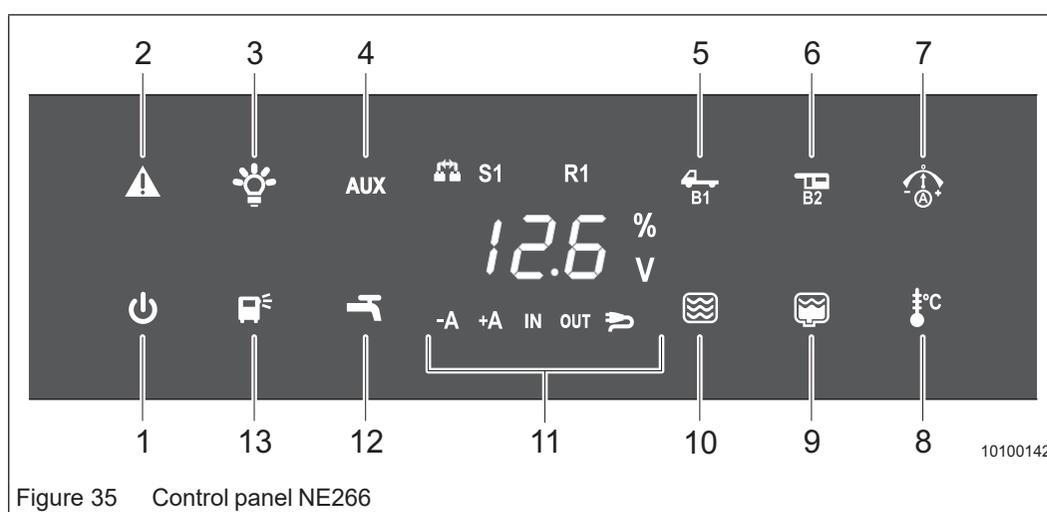

Figure 35 Control panel NE266
- ➔ Touch the “On/Off” sensor (Figure 35/1) to deactivate the control panel.
- ➔ Touch the “Interior lighting” sensor (Figure 35/3) to switch the interior lighting on or off.
- ➔ Touch the “Exterior lighting” sensor (Figure 35/13) to switch the exterior lighting on or off.
- ➔ Touch the “AUX” sensor (Figure 35/4) to switch the AUX port on or off.
- ➔ Touch the “Water pump” (Figure 35/12) sensor to switch the water pump on or off.
- ➔ Touch the “Starter battery B1” sensor (Figure 35/5) once to display the starter battery voltage (B1) on the display (Figure 35/11).
- ➔ Touch the “Service battery B2” (Figure 35/6) sensor once to display the service battery voltage (B2) on the display (Figure 35/11).
- ➔ Touch the “Service battery charge/discharge” sensor (Figure 35/7). If the battery is being charged at this moment, “+A” is shown on the display (Figure 35/11). If the battery is being discharged at this moment, “-A” is shown on the display.
- ➔ Touch the “Fresh water tank” sensor (Figure 35/10) to show the filling level in the fresh water tank (S1) on the display (Figure 35/11) in percent (0%, 25%, 50%, 75%, 100%). If the fresh water tank is empty the information on the display (Figure 35/11) will be flashing. If the tank connections are faulty, “- - -” will be shown on the display.
- ➔ Touch the "Waste water tank" sensor (Figure 35/9) to show the filling level in the waste water tank (R1) on the display (Figure 35/11) in percent (0%, 25%, 50%, 75%, 100%). If the waste water tank is full, the information on the display (Figure 35/11) will be flashing. If the tank connections are faulty, " - - " will be shown on the display.
- ➔ Touch the "Temperature display" sensor (Figure 35/8) once to display the inside temperature on the display (Figure 35/11).
- ➔ Touch the "Temperature display" sensor (Figure 35/8) twice to display the outside temperature on the display (Figure 35/11).
The "Malfunction" indicator (Figure 35/2) is illuminated if a malfunction has occurred.
An error code appears on the display (Figure 35/11):